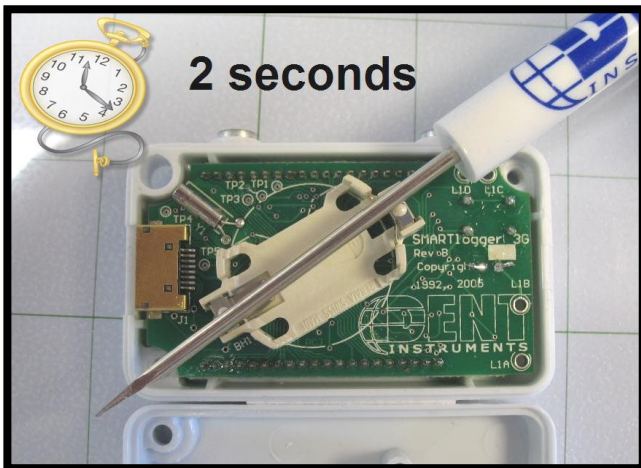

Figure 2. Short across the battery holder for two seconds.
5. To replace the battery, carefully remove it from the holder. Then, using a small screw driver, short across the battery holder terminals for at least 2 seconds to remove any residual charge. (See Figure 2.)